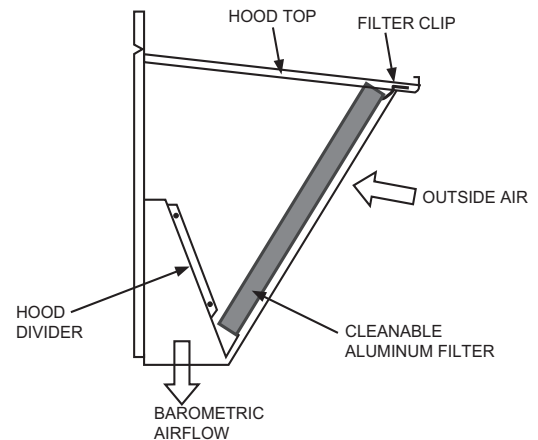

Fig. 19 — Fully Assembled Hood
23. Install aluminum filter(s) in EconoMiSer X hood. Clips at top of hood will hold filters in place. See Fig. 19.